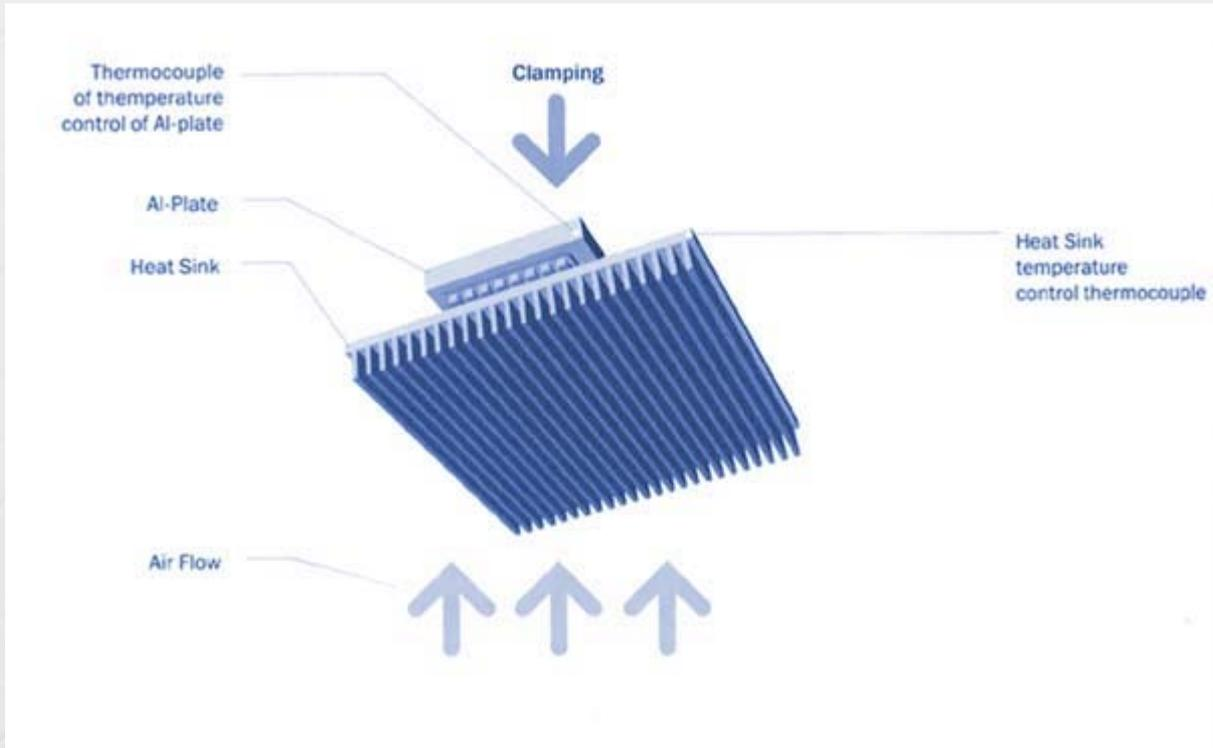
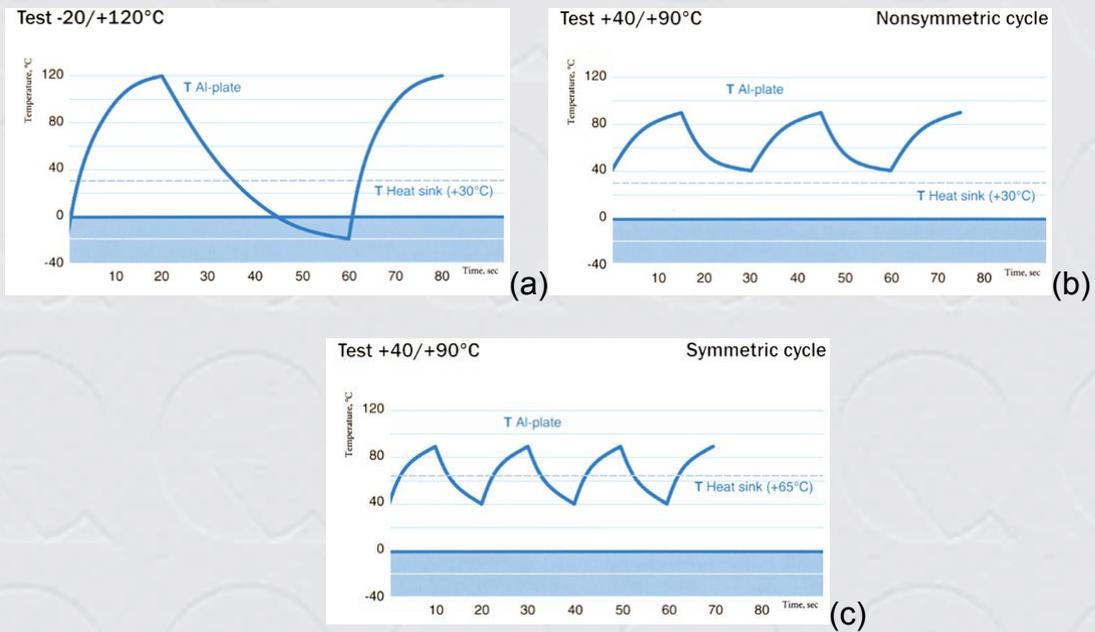

Fig. 1. Outline of POWER CYCLE (Reverse Current Polarity) TEST
Fig. 2. Possible modes of the POWER CYCLE (Reverse Current Polarity) TEST
3. Symmetric Power Cycling (Reverse Current Polarity) "+40/+90°C" with period of cycle near 5 min. and number of cycles $>2 \times 10^3$ - see Fig.1 and Fig. 2(c).
3. Symmetric Power Cycling (Reverse Current Polarity) "+40/+90°C" with period of cycle 20-60 sec. and number of cycles $>10^5$ - see Fig.1 and Fig.2(c).